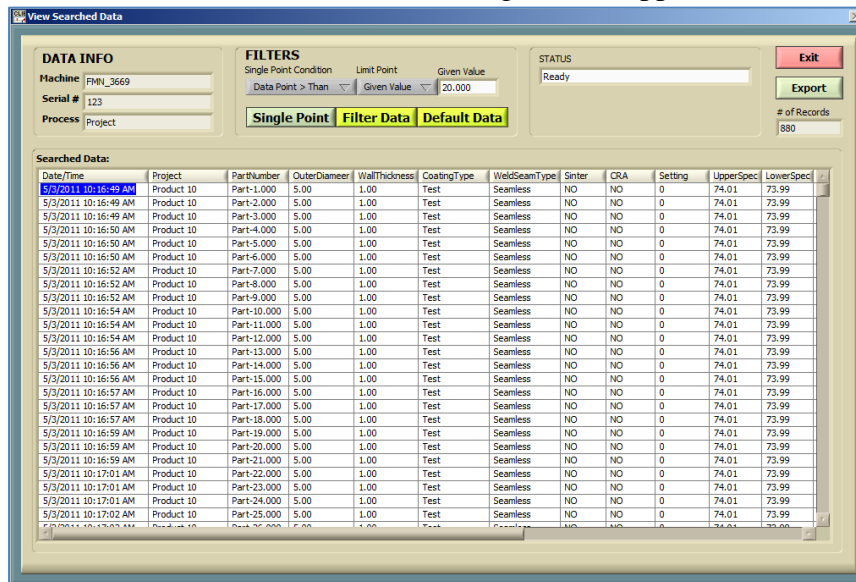

Figure 2-2: The View Searched Data Window
2. The **View Searched Data** window (Figure 2-2) appears.